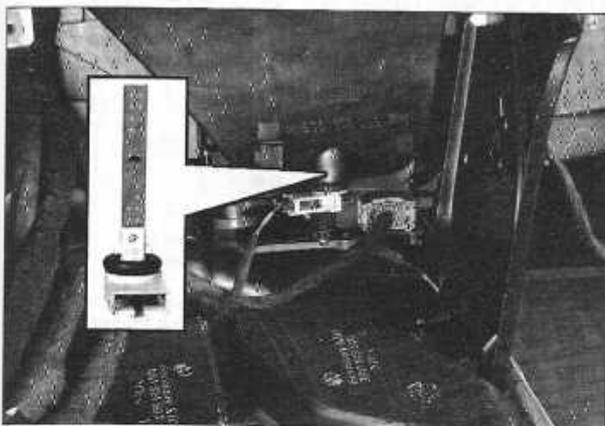

FIGURE 10-2
**SONDE DE TEMPÉRATURE AU DIFFUSEUR D'AIR CENTRAL (figure 10-2)**